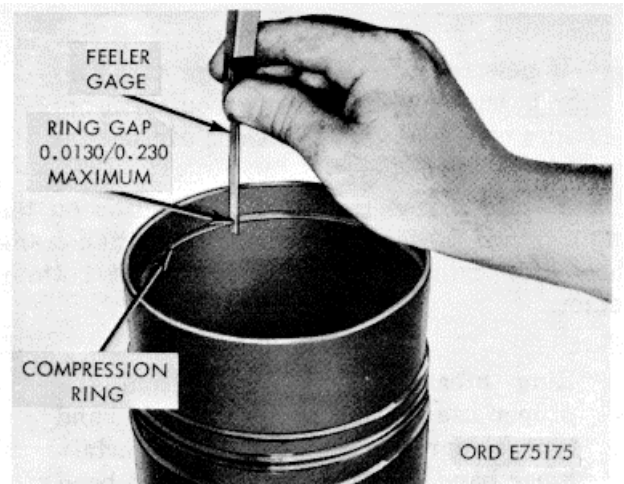

Figure 3-12. Piston ring gap check.
(1) Insert each compression ring into worn portion of cylinder liner, seating it squarely using a piston head (fig. 3-12).
(2) Measure ring gap with feeler gage. The allowable ring gap is 0.013/0.0230: Rings exceeding this limit should be discarded.
(3) If necessary, file ring ends to obtain gap of 0.0130/0.0230 inch.